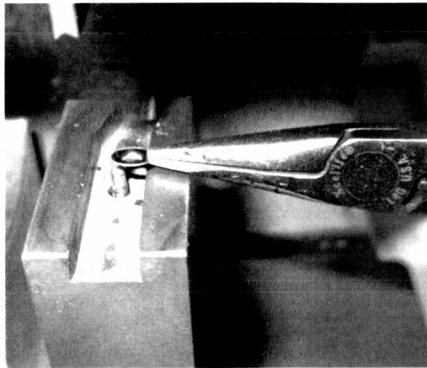

Figure 14.
- 13.) Using needle nose pliers, grab a push nut with the flat side up. Insert the push nut onto the guide post on the X-1761 "Float Rod Assembler" nest (Figure 14).